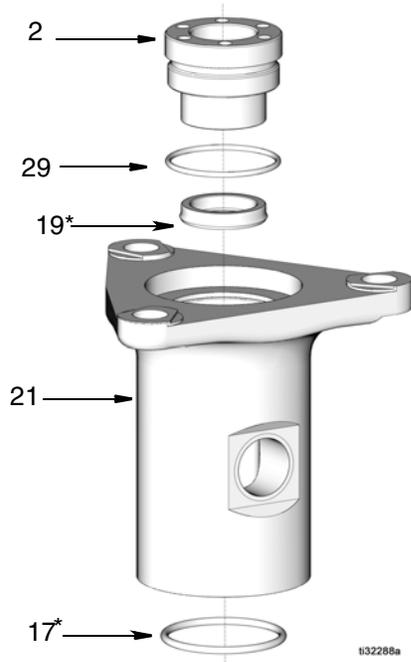

FIG. 12
1. Apply a thin layer of grease to o-ring (17*) and throat seal (19*) and install parts in pump base (21) (FIG. 12).
2. Apply a thin layer of grease to o-ring (29*) and install o-ring to packing gland (2). Tighten down packing gland (2) to pump base (FIG. 12).